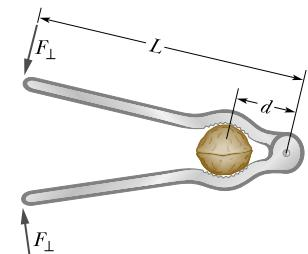

Figure 12.22 Problem 19.
**19 E** To crack a certain nut in a nutcracker, forces with magnitudes of at least 40 N must act on its shell from both sides. For the nutcracker of Fig. 12.22, with distances  $L = 12 \text{ cm}$  and  $d = 2.6 \text{ cm}$ , what are the force components  $F_{\perp}$  (perpendicular to the handles) corresponding to that 40 N?